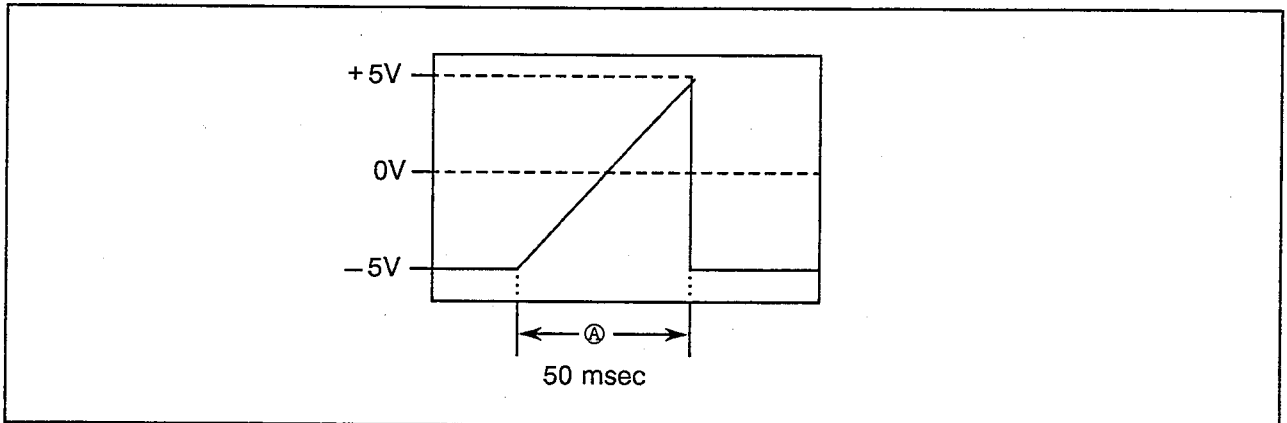

Figure 6-11 Output Waveform of Signal at Pin 2 of J7
- (6) Observe the signal of pin 2 (RAMP) of J7 on the oscilloscope and make sure that this signal has the same waveforms as shown in Figure 6-11.